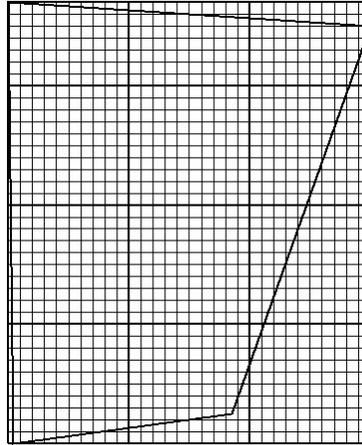

Figure 53. Grid in Biscayne Bay aquifer example.
20. To create the grid (fig. 53), select **Grid|Generate Grid**, uncheck **Calculate grid angle automatically** and click the **OK** button.